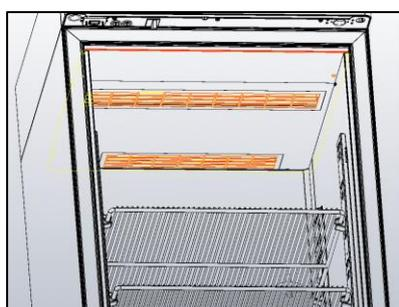
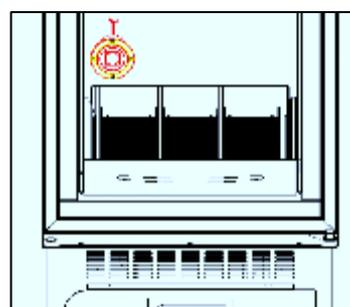

Figure 14 – air vents at the top of the compartment
Figure 15 – position of the SUPERARTIC model pressure equalising valve
- ✓ Do not block air vents (Figure 14) and pressure equalising valve in SUPERARTIC models (Figure 15).